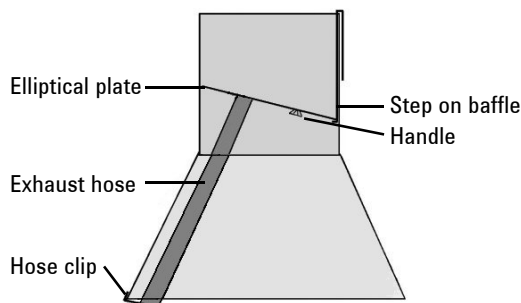

Figure 20. The adaptor plate fits onto the baffle rest at approximately a 30° angle
- 5 Push the adaptor plate up into the flue at an angle of approximately 30 degrees. Continue to push the plate up until it is above the baffle rest. Refer to Figure 20.